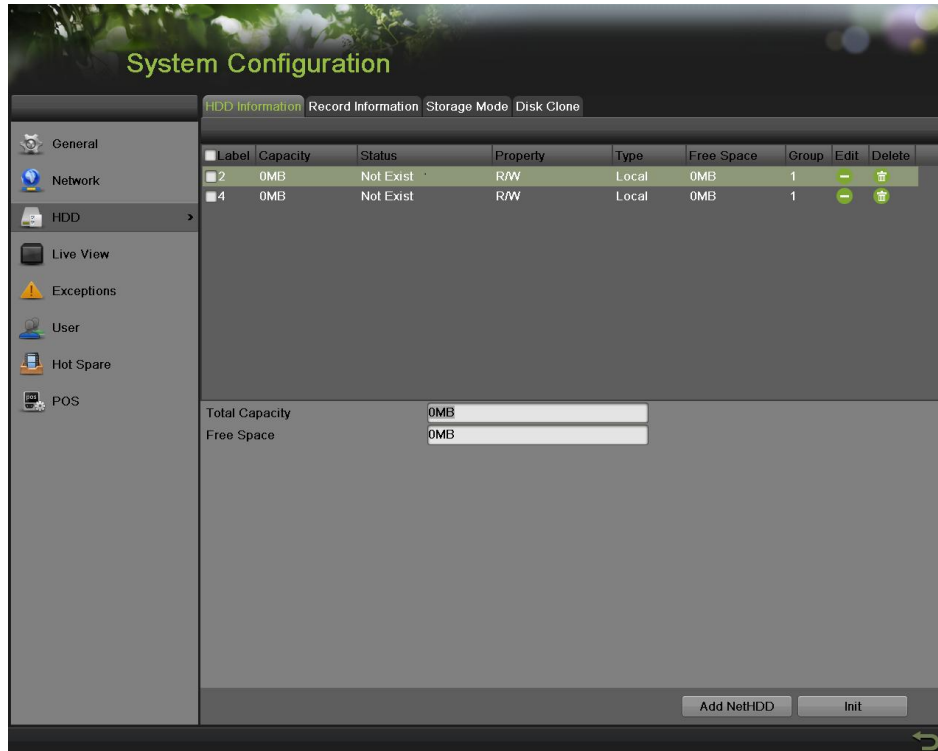

Figure 148 HDD Management Menu
1. Enter the HDD menu, shown in Figure 148 by going to Menu > System Configuration > HDD.